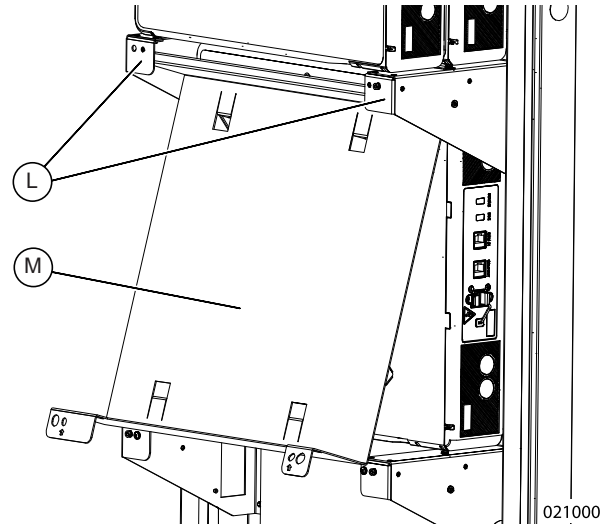

Figure 4-18. Installing Module Spacer (1 of 3)
1. See Figure 4-18. Angle the top of spacer (L) under and behind bracket lip (M).